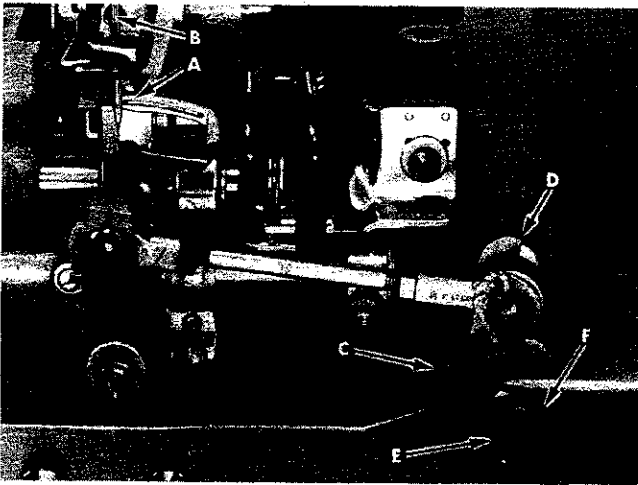
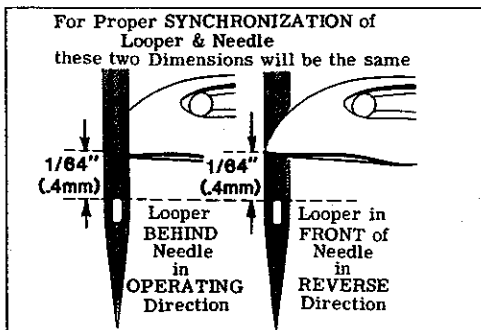
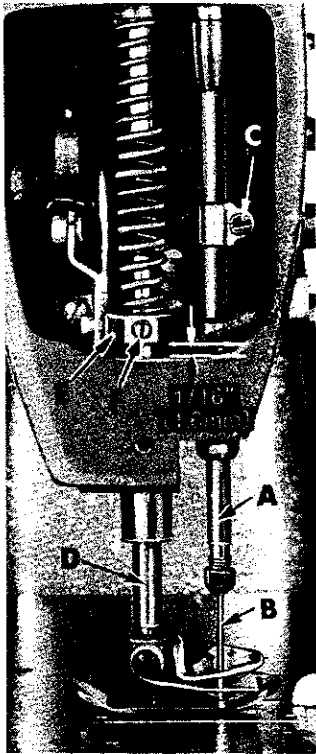

Fig. 3
Fig. 4
Fig. 8
Turn handwheel in the operating direction until the point of the looper (A, Fig. 3) moving to the left, is even with the left side of needle (B). Note the height of the eye of the needle with respect to the looper point (See Fig. 4). Turn the handwheel in the reverse direction until the point of the looper again moving to the left, is even with the left side of needle (See Fig. 4). If the height of the eye of the needle with respect to the looper point are the same, looper and needle motions are synchronized - a variation of .005 inch (.127mm) is allowable. If the distance from the eye of the needle to the point of the looper is greater when the handwheel is turned in the operating direction, the looper drive lever rocker shaft will have to be moved slightly towards the rear. Moving the shaft towards the front acts the reverse.
NOTE: The 1/64 inch (.4mm) dimension shown in Fig. 4 is for final setting of needle bar height.
Loosen screw (C, Fig. 3) in looper drive lever (D). A rod of .146-40 thd. or Union Special Screw No. 22870 A can be threaded into the looper drive lever rocker shaft through the center of thrust adjusting screw (E). Tap or pull slightly as required to position shaft for proper synchronization. Tighten screw (C) securely and remove rod or screw used to position shaft.
Height of needle bar (A, Fig. 8) is correct when the top of the eye of needle (B) is
$1/64$ inch (.4mm) below the underside of looper as shown in Fig. 4. Adjustment can be made by loosening screw (C, Fig. 8), move needle bar (A) up or down as required, retighten screw.
Height of presser bar (D, Fig. 8) is set correctly if it is possible to remove the presser foot when the foot lifter lever, located at the back of the machine and extending above the upper crank chamber cover is fully actuated (pulled to the right). There should be approximately 1/16 inch (1.6mm) clearance between lower surface of the Presser bar connection and guide (E) and bottom surface of head opening in the bed when foot lifter lever is released and presser foot lying flat on the throat plate with feed dog below throat plate.